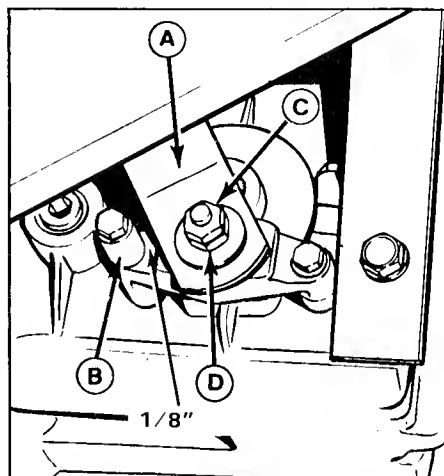

Figure 31. Parking Brake Adjustment
- Push the cam lever (A, figure 31) forward (toward front of tractor) to take out any slack. The gap between lever (A) and stop (B) should be $1/8$ inch (0.3 mm). Use a feeler gauge to measure. If not $1/8$ inch, perform step C.